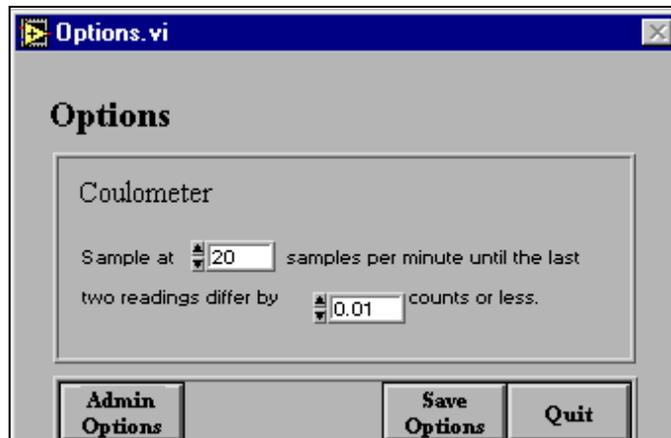

Figure 6. Set options here.
| Figure 6. Set options here. | 4 |
1. If you click on **Yes**, the “Options” window will open (see Figure 6).